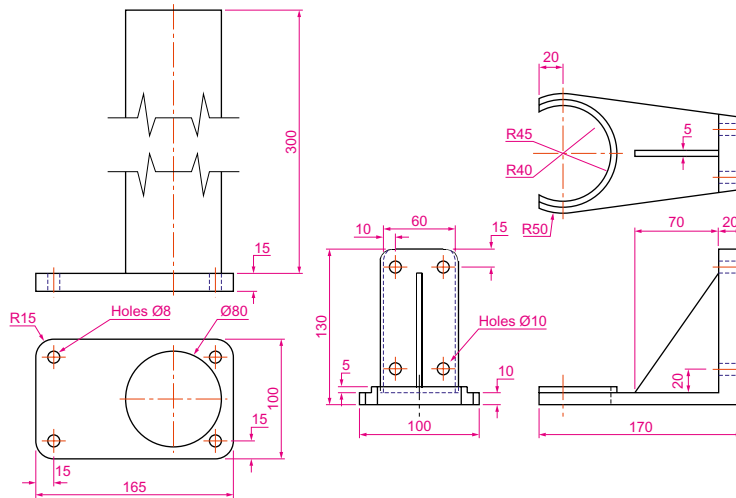
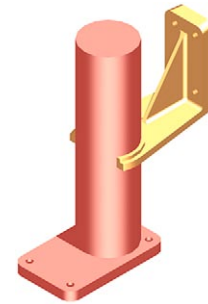

Fig. 15.28 Second example – Rendering – orthographic projection
Fig. 15.29 Second example – Rendering
First example – Rendering (Fig. 15.28)
5. There are several methods by which **Distant** lights can be called. By selecting **Default Distant Light** from the **Generic Lights** palette (Fig. 15.29), with a *click* on the **Distant** icon in the **Render/Lights** panel, by *entering distantlight* at the command line.
4. Render the model (Fig. 15.28) using the **Render Region** tool from the **Render/Render** panel and if now satisfied save to a suitable file name (Fig. 15.29).
Second example – Rendering a 3D model (Fig. 15.29)
1. Construct 3D models of the two parts of the stand and support given in the projections (Fig. 15.28) with the two parts assembled together.
Fig. 15.28 shows the resulting rendering.